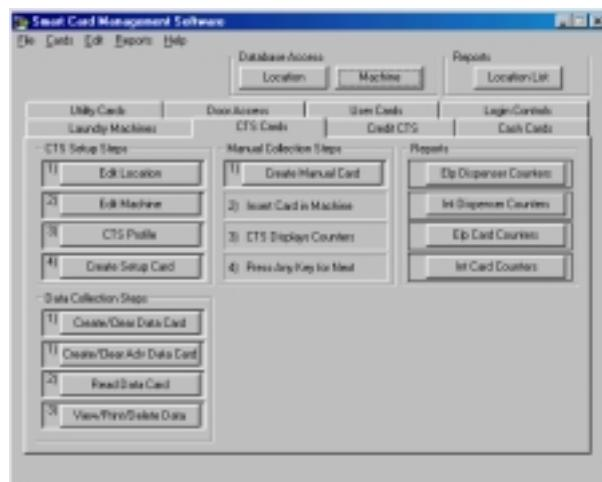

Figure 2.16 CTS Card Manager
2.2.6.6. CTS Cards Manager (Figure 2.16)